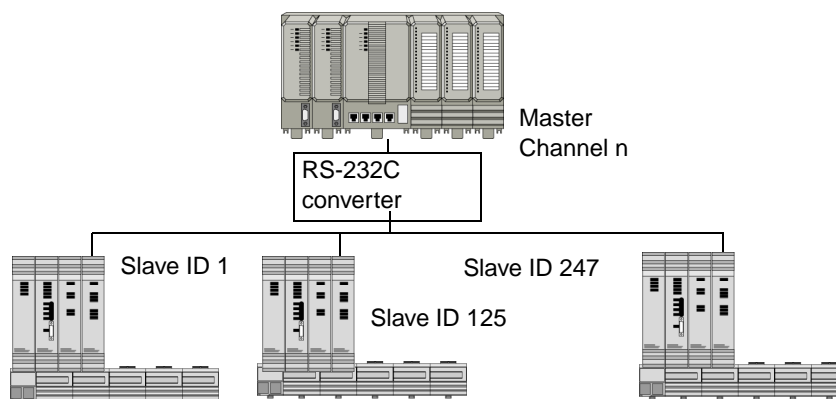

Figure 21. Example of multidrop communication.
In multidrop communication several slave systems are connected to a master, see Figure 21. Communication takes place between the master and one slave at a time. Direct communication between slave systems is not possible. A particular message from the master is sent to all slaves, but only the slave, whose unique identity corresponds to the identity contained in the message accepts the data.
- The COMLI communication protocol can administer a maximum of 247 slave identities, see Figure 21).